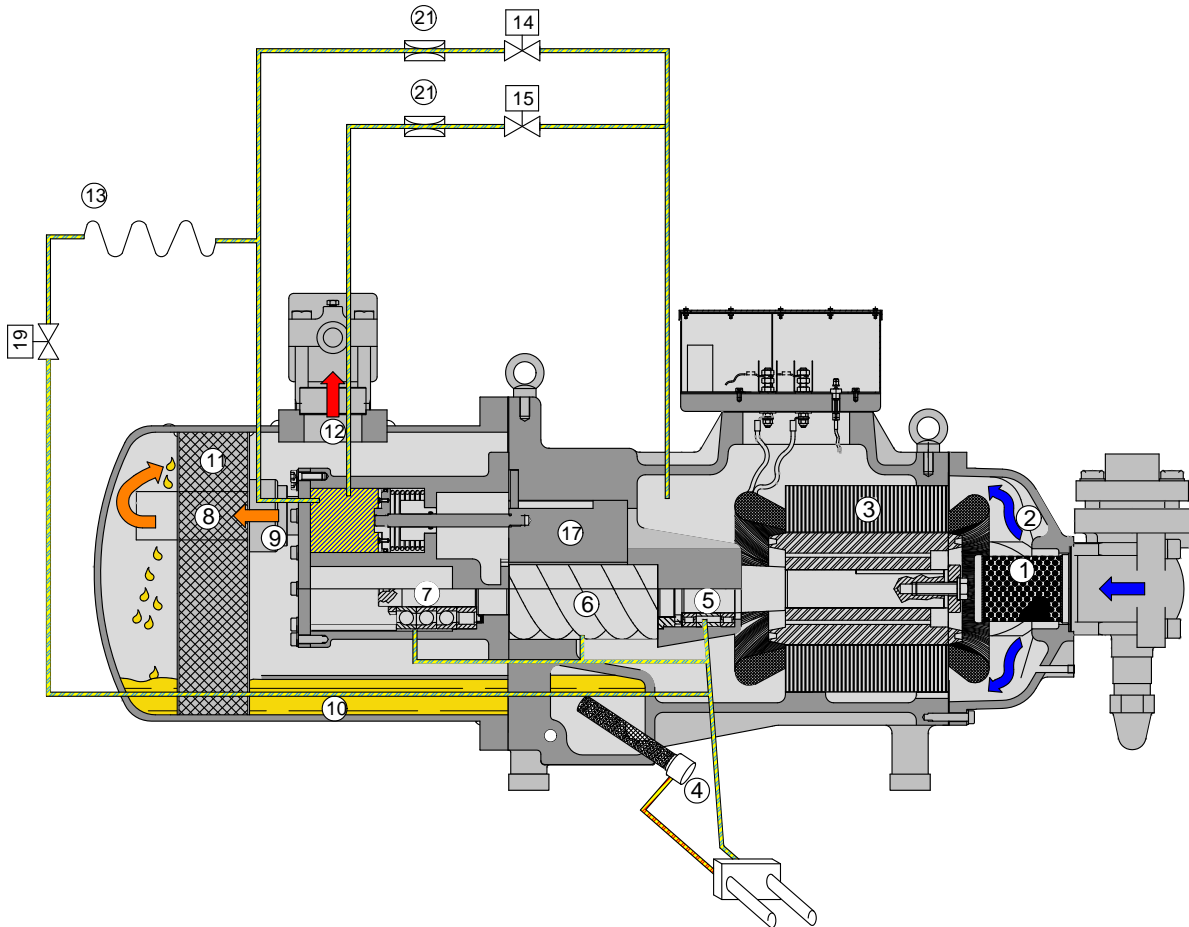

Fig. 7: diagram of the internal oil circuit for lubrication and operation of the slide valve;
The lubricant is held in the bottom of the housing and in the oil separator. As shown in Fig. 7, the oil separator of the ES3 compressors is connected directly to the front of the compressor flanged casing.
The high-pressure oil-gas mixture undergoes to a separation process in the 'DEMISTER', part (11) in Fig. 7 (see paragraph 3.4 'Oil separation'); then the oil is collected at the bottom of the oil separator while the gas leaves the compressor through the discharge shut-off valve located on top of the oil separator.
- ✓ actual filtering of the discharged gas by the "DEMISTER" (part (7) and (11) respectively in Fig. 7; variation in direction and speed of the compressed refrigerant-oil mixture).
The compressors are fitted with a high efficiency oil filter. In models ES3-H040/H050/H060 this is located inside the compressor, and therefore to be inspected the discharge bell and the oil separator need to be removed. In the remaining models of the ES3 series, on the other hand, the oil filter is positioned on the bottom of the crankcase, as shown in Fig. 7¹, and as a result it is easily accessible from the outside of the compressor. For further details on the position, see chapter 8: "*Dimensional drawings and packaging*".